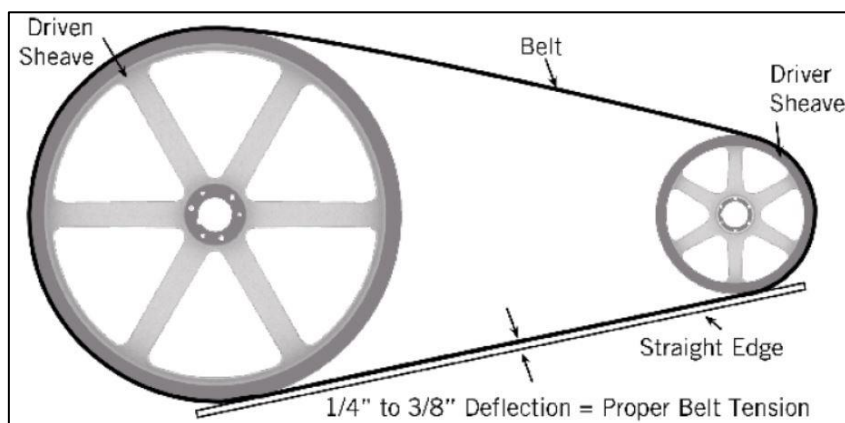
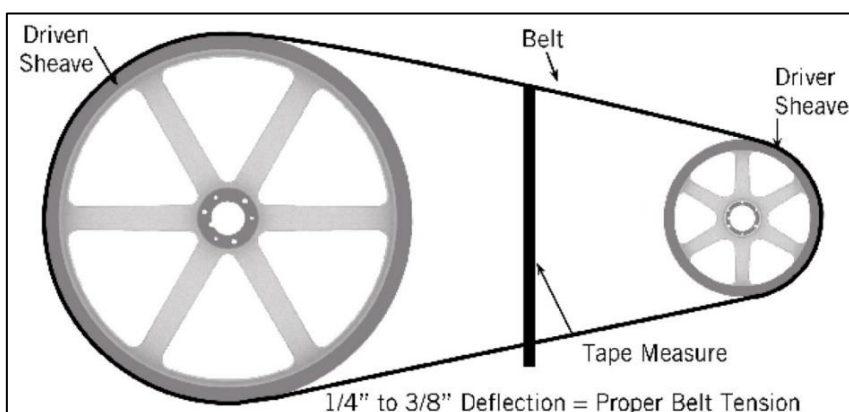

Figure 5. Belt Tension with a Straight Edge
Figure 6. Belt Tension with a Tape Measure
- Place a straight edge along the belt from sheave to sheave as shown in **Figure 5** or use a tape measure as shown in **Figure 6** to measure belt deflection.
- There is adequate belt tension if the belt deflects between 1/4” and 3/8” as shown in **Figure 5** and **Figure 6**.